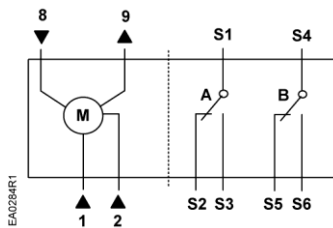

Figure 26. GLB16x Wiring.
1. Connect all wires per Figure 26.